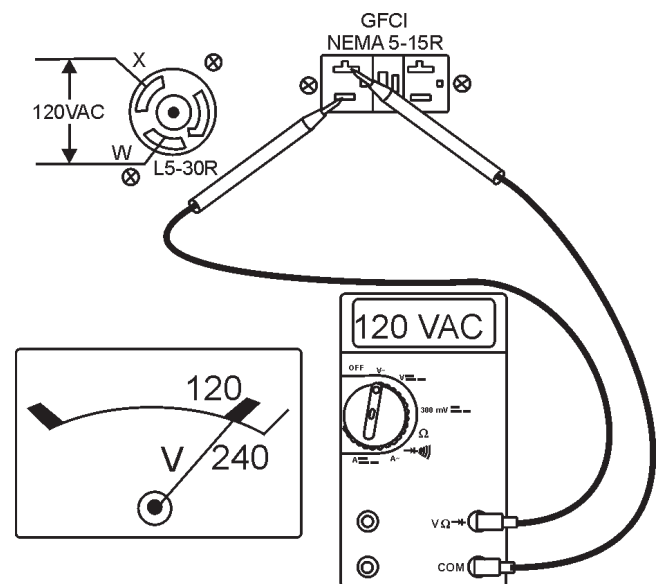

Figure 22. 120V GFCI/L5-30R Receptacles
- Read voltmeter on front panel of generator (Figure 22) and verify that 120 VAC is displayed. Using an external voltmeter as shown in Figure 22, verify that 120 VAC is present at the 120V twist-lock and GFCI duplex receptacles.